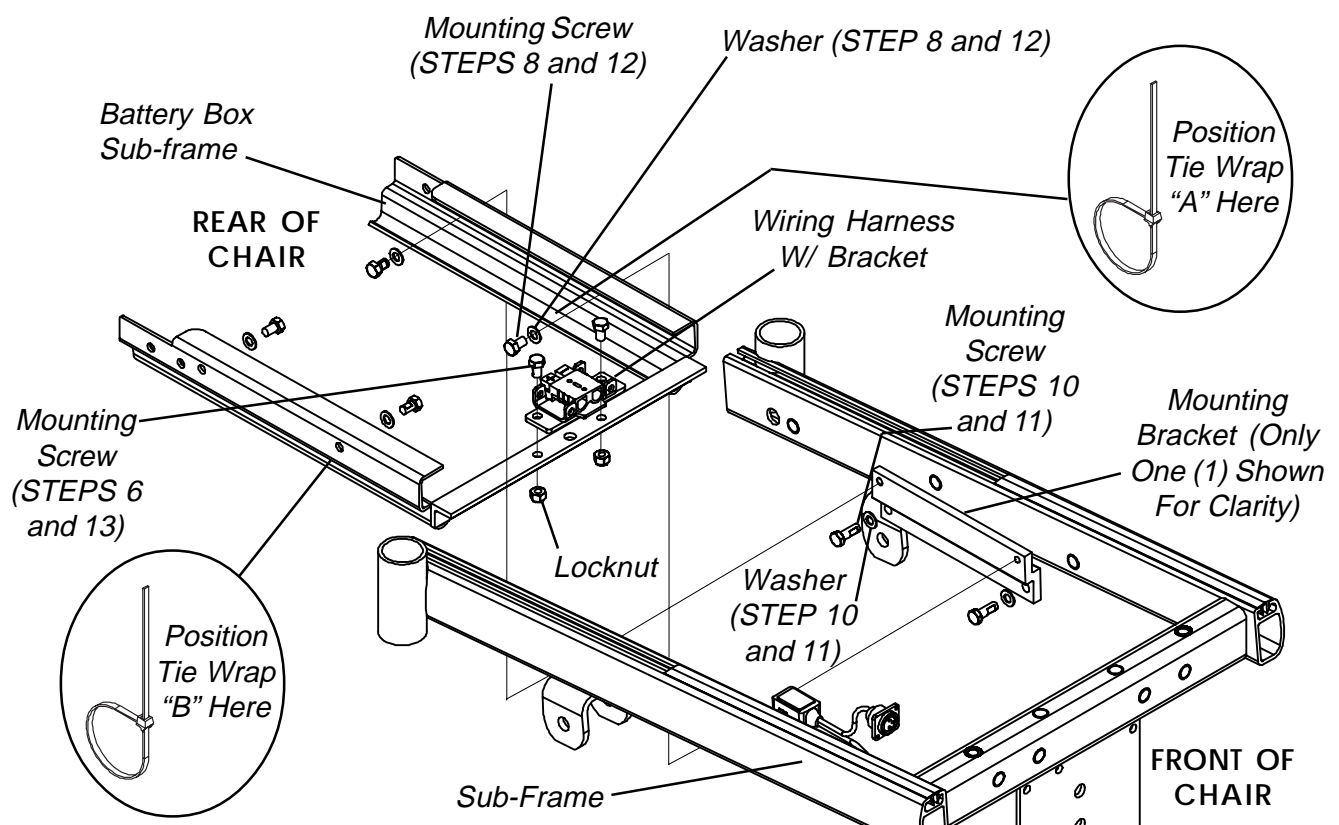

FIGURE 5 - REMOVING/INSTALLING GROUP 24 BATTERY BOX SUB-FRAME
REPLACING GROUP 24 BATTERY BOX SUB-FRAME (FIGURE 5)
6. Remove the two (2) mounting screws and locknuts that secure the wiring harness w/bracket to the battery box sub-frame.
8. Remove the four (4) mounting screws and washers that secure the battery box sub-frame to the mounting brackets.
10. Remove the four (4) mounting screws and washers that secure the two (2) mounting brackets to the sub-frame.
11. Install the four (4) mounting screws and washers that secure the two (2) NEW mounting brackets to the sub-frame.
12. Install the four (4) mounting screws that secure the NEW battery box sub-frame to the mounting brackets. Use Loctite 242 and torque mounting screws to 156-inch pounds.
13. Install the two (2) mounting screws and locknuts that secure the wiring harness w/bracket to the NEW battery box sub-frame. Use Loctite 242 and torque mounting screws to 160-inch pounds.
14. Secure the sensor cable **AND** the LEFT motor cable to the NEW battery box sub-frame using tie wrap A. Refer to FIGURE 5 for tie wrap positioning.
15. Secure the battery charger cable **AND** the RIGHT motor cable to the NEW battery box sub-frame using tie wrap B. Refer to FIGURE 5 for tie wrap positioning.